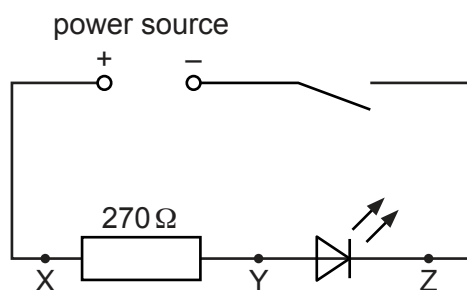

Fig. 2.1
- sufficient connecting leads to assemble the circuit shown in Fig. 2.1 (see Note 5).
4 The resistors should be clearly labelled with the value of their resistance. The $470\ \Omega$ and $560\ \Omega$ resistors must be placed by the side of the circuit shown in Fig. 2.1.
5 The supervisor must assemble the circuit shown in Fig. 2.1 for the candidates in advance of the exam. The LED should light when the switch is closed to show it is connected the right way round.
The circuit must be restored to its original state shown in Fig. 2.1, with the switch open and the voltmeter disconnected from the circuit. The $270\,\Omega$ resistor should be connected into the circuit and the $470\,\Omega$ and $560\,\Omega$ resistors placed at the side. Check that the LED lights when the switch is closed.